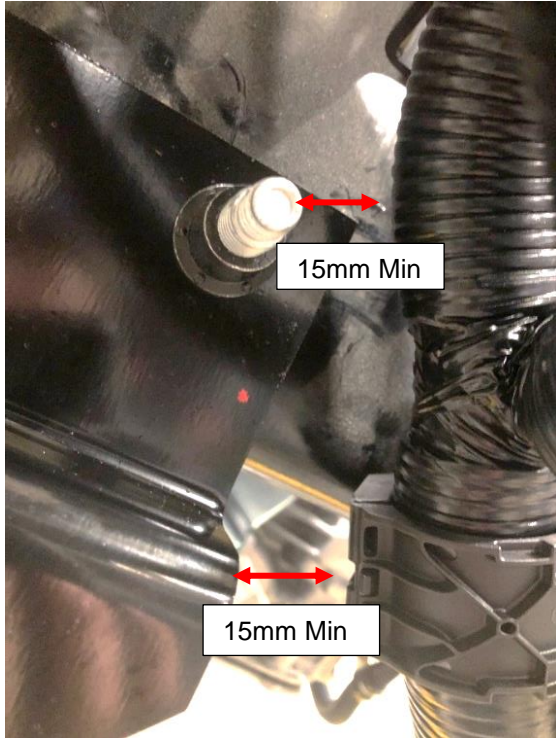
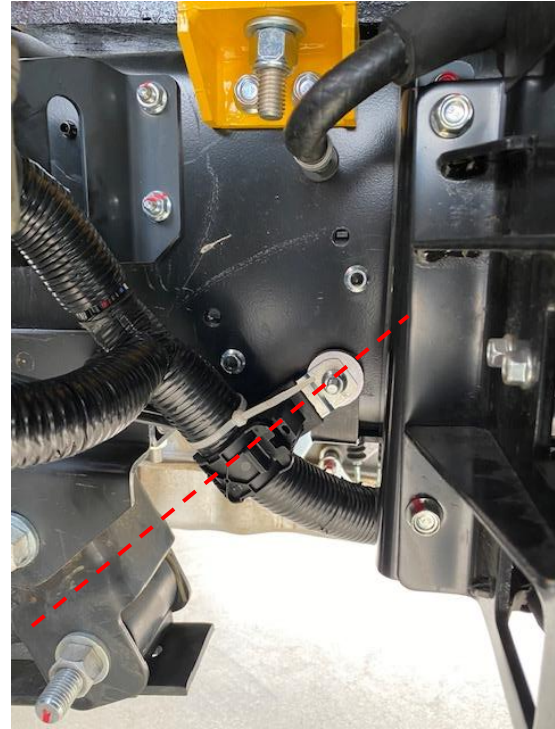

Figure 10
Figure 11
11. Adjust the Upper Clamp position until the harness has at least 15mm of clearance from the spring hanger bracket and bolt as shown in Figure 10. Position the Lower Clamp so that it is in line with the spring hanger bracket as shown in Figure 11. Hold the Lower Clamp in place when the clearance and Clamp position are correct and snug the nut down with a ratchet and socket.